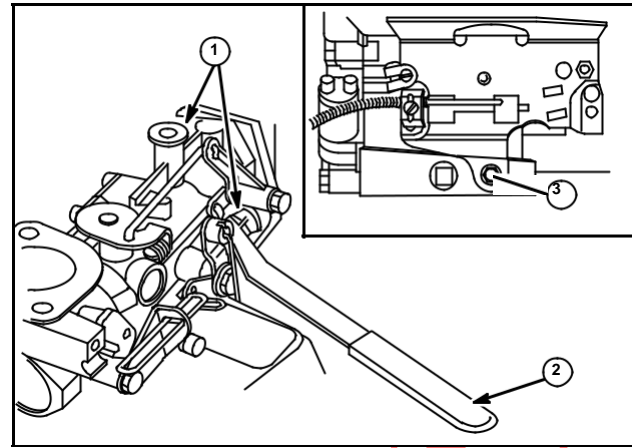

Fig. 89
1. Connect governor linkage to carburetor linkage and using Tool #19305, Offset Screwdriver, Tool #19391, Torx Wrench, or open end wrench (2), install two screws (1) holding carburetor to engine, Fig. 89.
2. Install screw to bottom of fuel tank bracket (3).